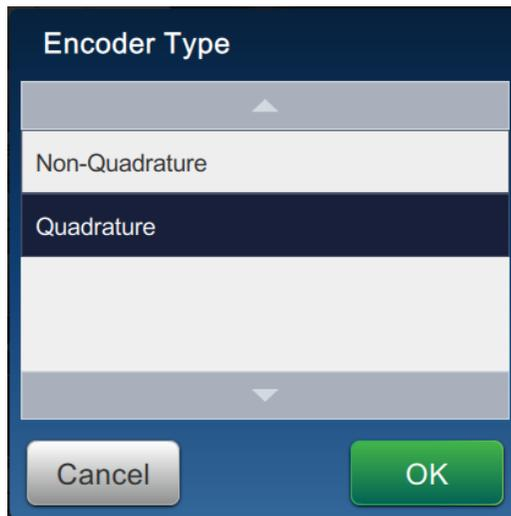

Figure 4-29: Encoder Type
6. Select the *Encoder Type* and touch the  button. Refer Figure 4-29 and Table 4-9 on page 4-31.